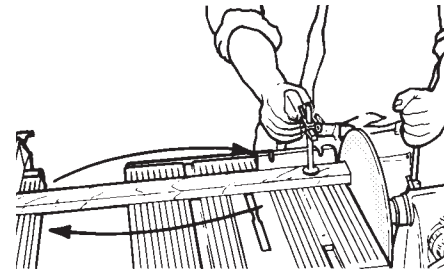

Figure C-20
3. Squeeze the safety grip with one hand, then turn on and adjust the MARK 520S speed. Feed the disc forward with the quill until it just contacts the stock. Back it off, then advance it again. Don't extend the quill all the way at this time, just sand until the end is smooth. Then, turn the stock and sand the other end. This time, advance the disc until the depth control stops it. See Figure C-20. Repeat this procedure as needed with the other boards you need to sand. When finished, they will all be exactly the same length.